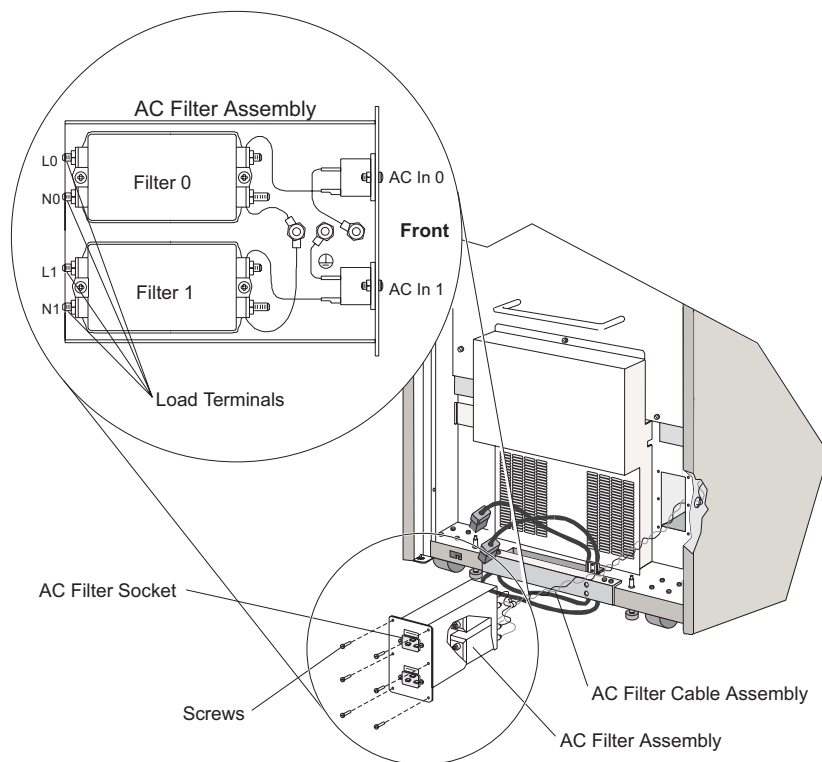

Figure 3-39. AC Filter Assembly
Use the following procedure to replace the ac filter assembly. Refer to Figure 3-39.
1. Attach the ac filter assembly cable wires to the L and N load terminals on each ac filter assembly. Wires are labeled for correct attachment. Refer to Figure 3-39 on page 3-81. For each cable terminal: